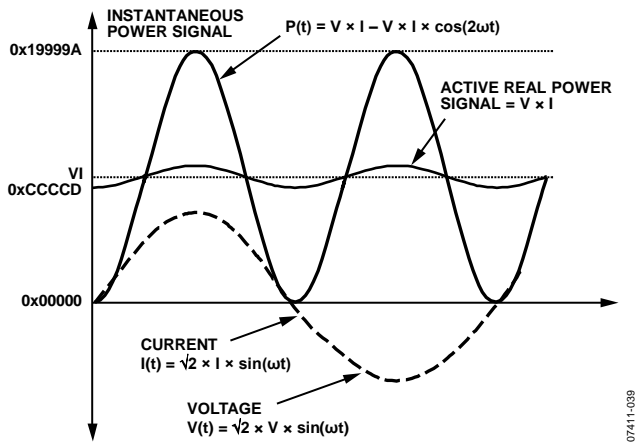

Figure 64. Active Power Calculation
Note that the active power is equal to the dc component of the instantaneous power signal, $P(t)$, in Equation 9, that is, V_I . This is the relationship used to calculate active power in the ADE5166/ADE5169/ADE5566/ADE5569. The instantaneous power signal, $P(t)$, is generated by multiplying the current and voltage signals. The dc component of the instantaneous power signal is then extracted by LPF2 (low-pass filter) to obtain the active power information (see Figure 64).
As mentioned in the Active Energy Calculation section, the discrete time sample period (T) for the accumulation register is 1.22 μs (5/MCLK). With full-scale sinusoidal signals on the analog inputs and the WGAIN register (Address 0x1D) set to 0x000, the average word value from each LPF2 is 0xCCCCD (see Figure 64). The maximum positive value that can be stored in the internal 49-bit register is 2⁴⁸ (or 0xFFFF FFFF FFFF) before it overflows. The integration time under these conditions when WDIV = 0 is calculated in the following equation: